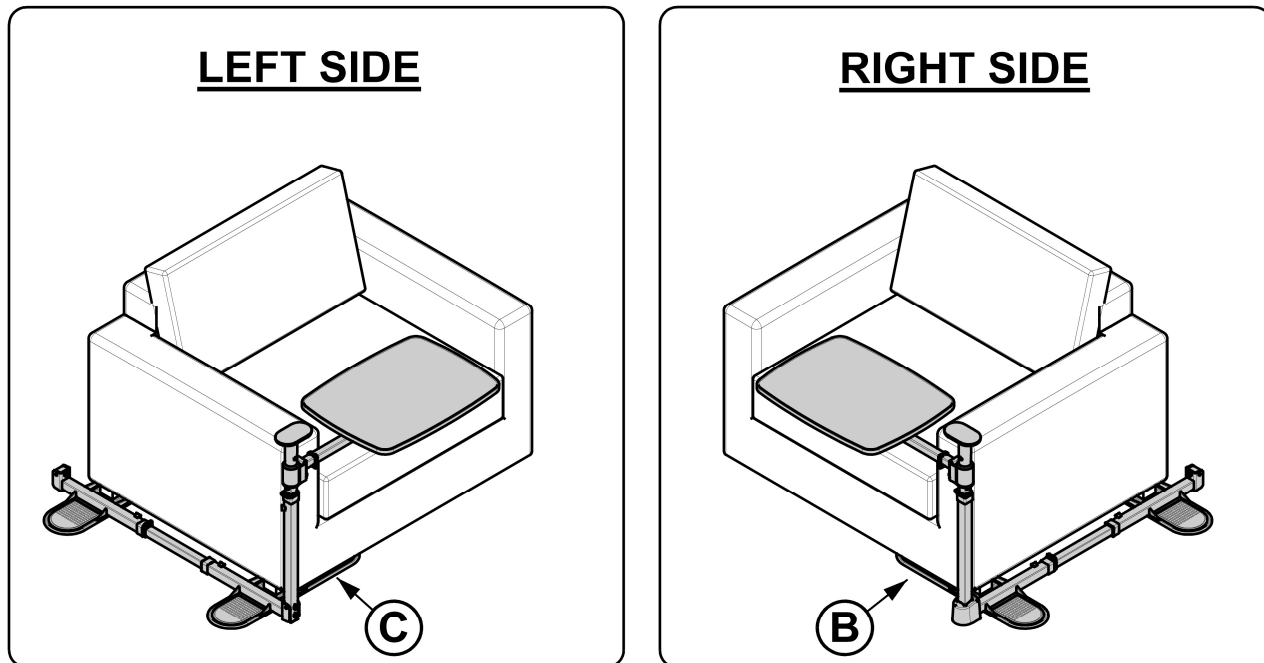

FIGURE 2
2. Decide which side of furniture product will be installed on. This will determine which Foot (**B** or **C**) will be considered the front or rear as shown in *FIGURE 2*. Right side installation will be shown throughout the rest of these instructions. For left side installation, simply swap Foot **B** for Foot **C**.